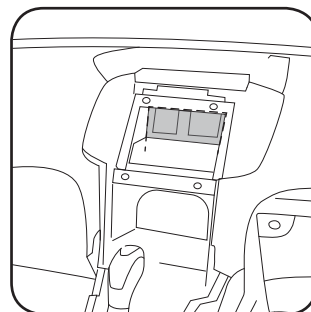

Fig. 1.7
8. Cut and remove the plastic behind the screen. (Fig. 1.7)